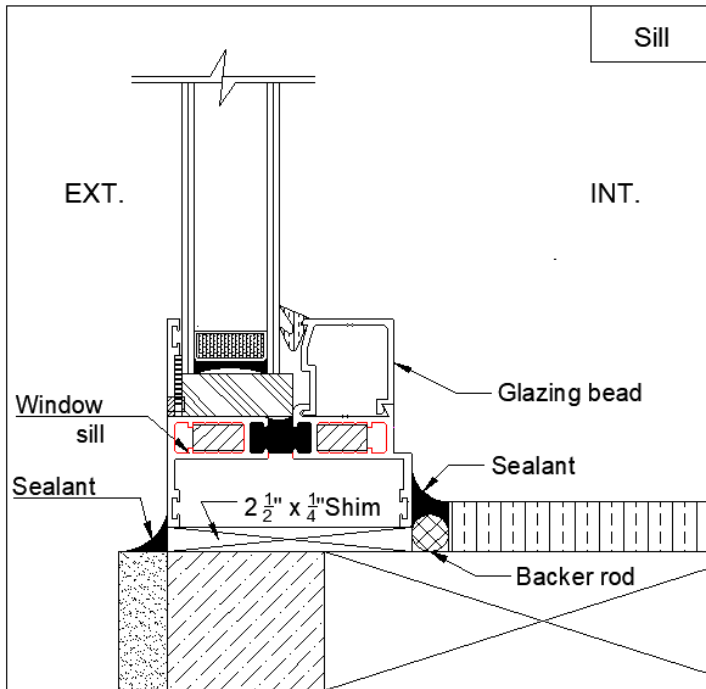

Figure 2: Side View of Sill
2.1 Set 2 $\frac{1}{2}$ " x $\frac{1}{4}$ " shim at the sill of opening to support the window (the length of shim is same as the opening width, refer to figure 2).
Remove loose debris and clean around the window, make sure the condition is clean and dry. Add proper backer rod before caulking if necessary, apply sealant continuously around exterior and interior window perimeter (refer to figures 2 – 4). Notice: make sure there's no void or gap in the sealant; do not use the expandable foam to seal the window, otherwise, it would bow the window's frame and affect the operation of window.